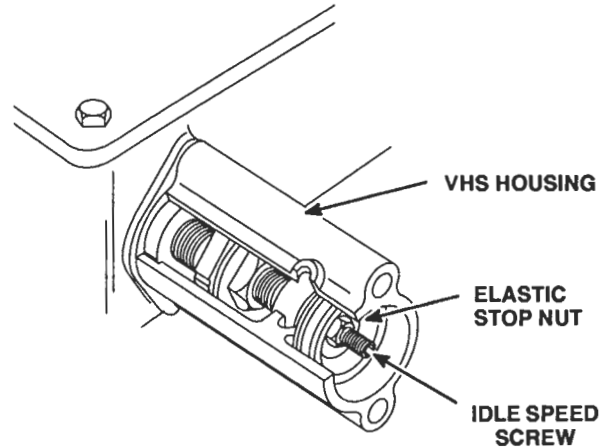

Figure 2. Elastic Stop Nut Adjustment
- b. Adjust the elastic stop nut, while holding the idle screw stationary, until a slight drag is felt on the shim (Figure 2.) This adjustment is made easily with Tool J 28598-A.